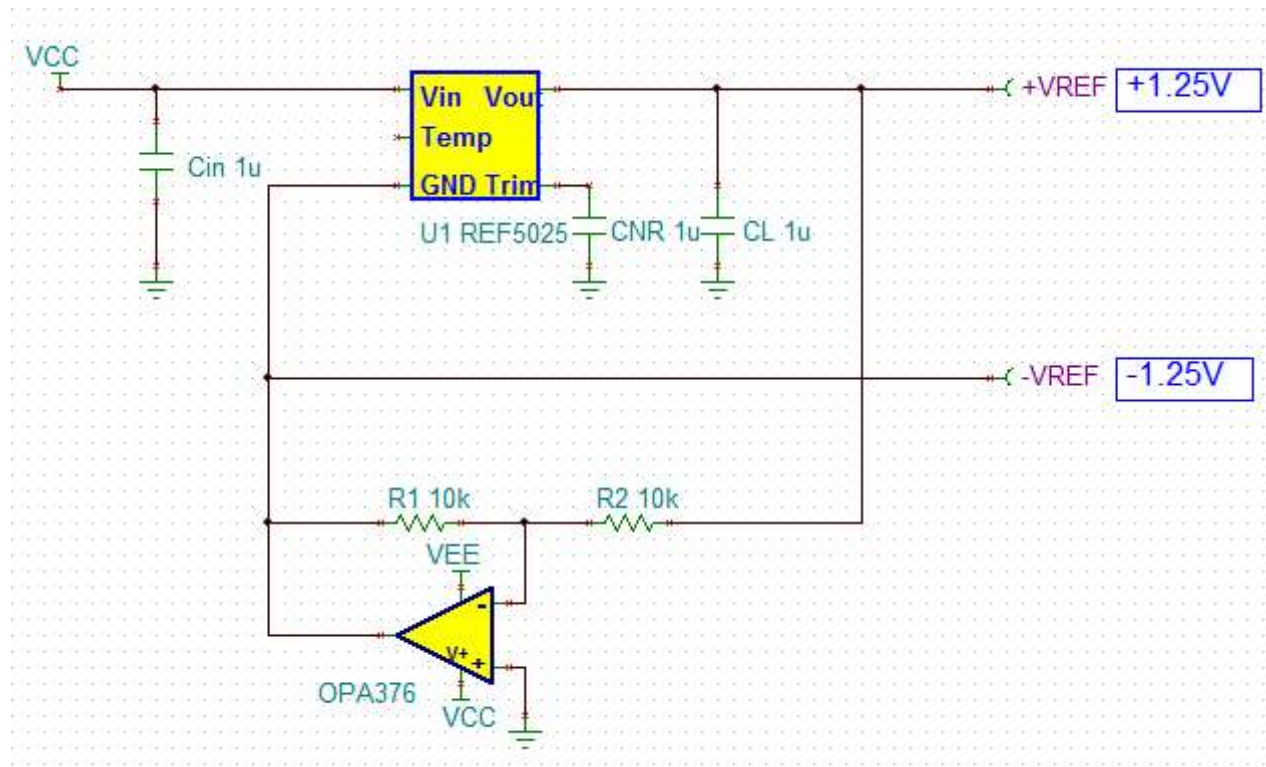

Figure 1: Creating a 1.25V precision voltage reference
One of the ways to generate a 1.25V precision voltage reference involves voltage-level translation, shown in Figure 1. The REF5025 nominal output voltage (2.5V) is level-shifted to half of its value by driving its GND pin to -1.25V with the use of the OPA376. Since the maximum input-voltage offset and drift of the OPA376 are +/-25µV and +/-1µV/C, respectively, and as long as the matching of R1/R2 resistors is within 0.01%, the resulting 1.25V voltage reference initial accuracy and drift will match the REF5025's performance.
- typically results in a higher-performance and lower cost solution than using the external resistors shown in Figure 1, which can be expensive for the required matching of better than 0.1%.